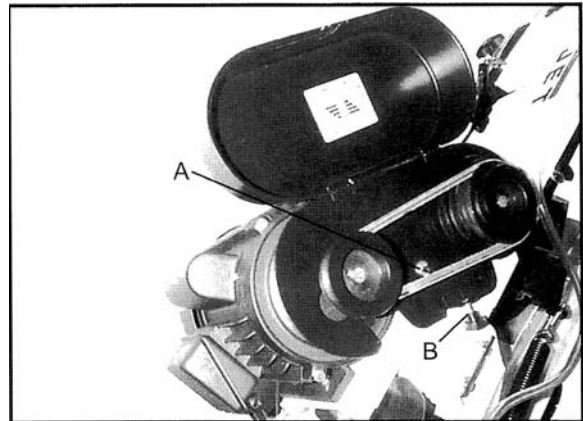

Figure 2
5. Slide belt cover over pulley assemblies and fasten with screws and washers (A, Figure 2).
6. Close belt cover and secure with lock knob (B, Figure 2).